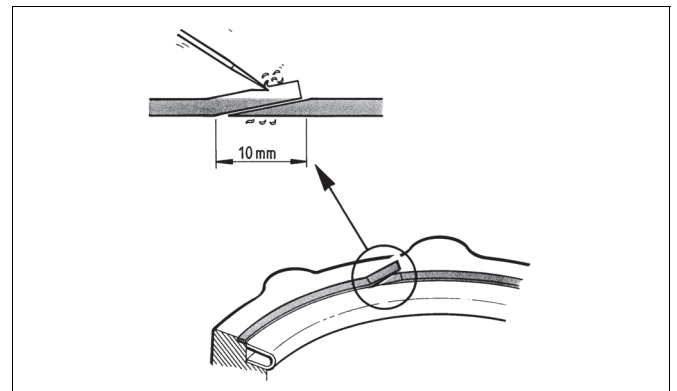

Fig. 11 Mounting the body seal
- Remove the clamp ring (2) by untightening the screws (27).
- Remove the old body seal (19) and the seat ring (4). Change the seat ring if it is damaged.
- Mount a new, self-adhesive body seal (19) into the body. The surface must be clean and free of grease. Handle the ends of the seal according to Fig. 11.